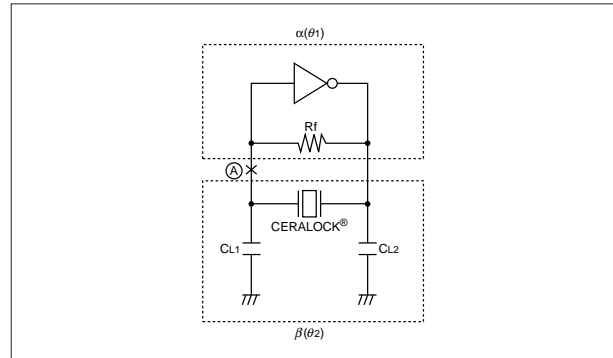

Fig. 2-8 Basic Oscillation Circuit with inverters
Fig. 2-8 shows the basic oscillation circuit with inverter. In open loop circuit by cutting at (A) point, it is possible to measure loop gain  $G$  and phase shift  $\theta$ .